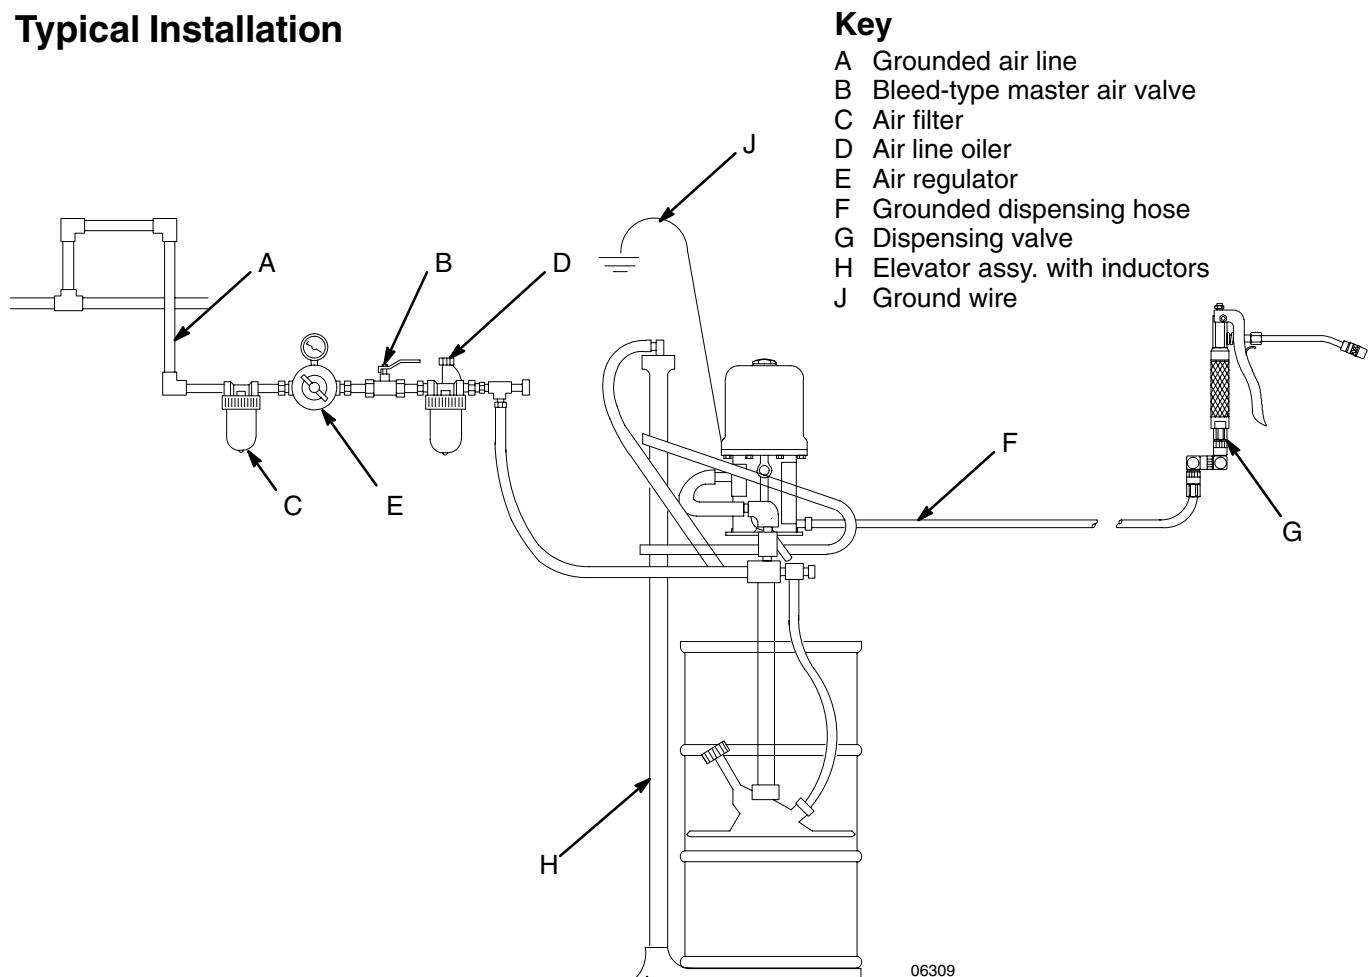

Fig. 2
Install the air line accessories in the approximate order shown in Fig. 2. Install a bleed-type master air valve (B) within easy reach of the pump, upstream from the air regulator (E). Install an air filter (C) to remove harmful dirt and moisture from your compressed air supply. For automatic air motor lubrication, install an air line oiler (D) close to the pump air inlet. Install an air regulator (E) to control pump speed.
The installations shown in Fig. 2 is only a guide for selecting and installing system components and accessories. Contact your Graco distributor for assistance in designing a system to suit your particular needs.
Use the air regulator (E) to control the pump speed and fluid pressure. See Fig. 2. Always use the lowest pressure necessary to obtain the desired results.